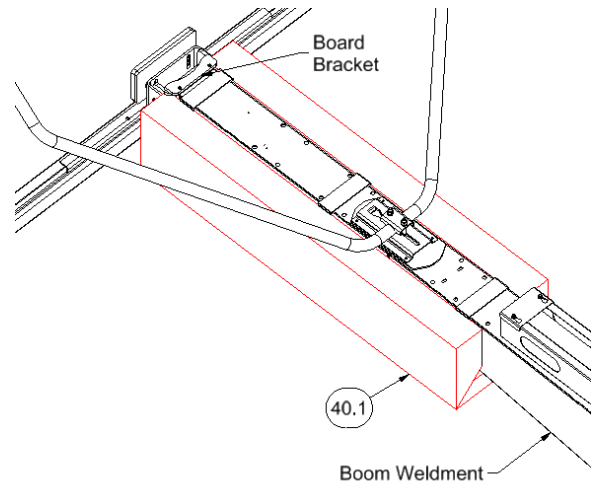

Figure 26
6. Install the Boom Pad, item 40.1, to the lower side of the Boom Weldment, using the hook and loop straps. The Boom Pad should be pushed tight to the Board Brackets as shown in figure 26.